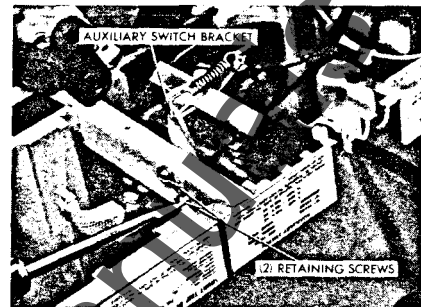

Fig. 13
Note: If equipped with a shunt trip, the cut-off auxiliary switch assembly located under the accessory mounting plate must also be removed. To accomplish this remove the two bracket retaining screws as shown in Fig. 13. These screws are made easily accessible by first removing the left pole arc chute.
2. If the mounting plate is equipped with a shunt trip device, install the cut-off auxiliary switch by replacing its two (2) bracket retaining screws, see Fig. 13 and left pole arc chute.